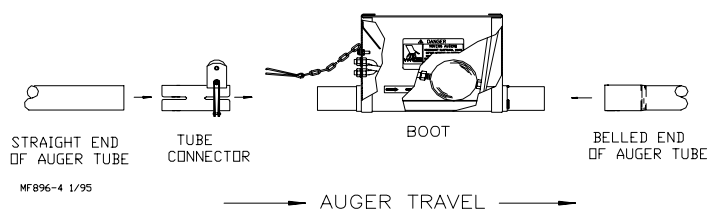

Figure 21. Boot components for Recommended Hopper Location. (Side View: Standing inside the loop).
- Two-Hopper systems (systems with over 500' or 152 m total auger length) must have hoppers located as specified in the Planning the System section on page 7 and 8. Skip to step 5 and refer to **Figure 21**.